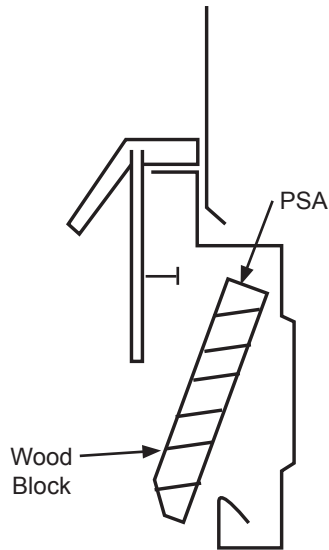
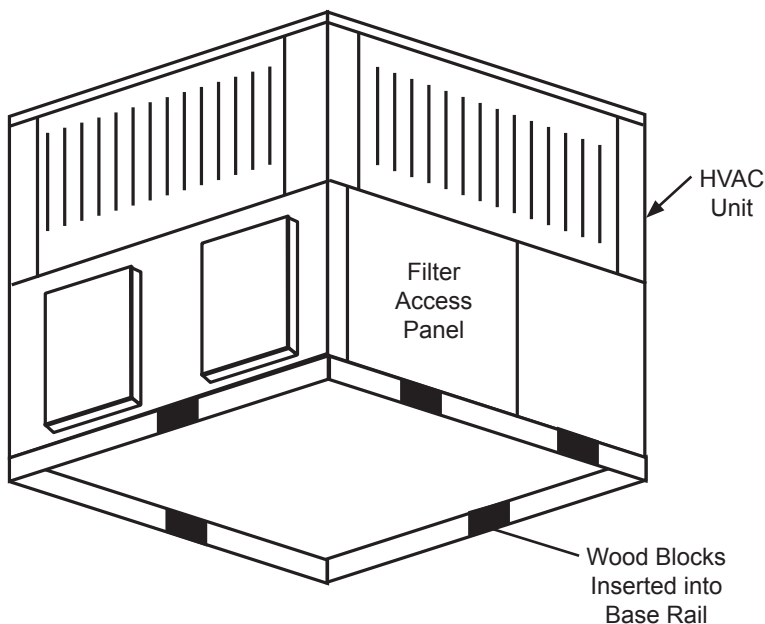

FIG. 11 - Wood Block Installation
FIG. 12 - Wood Block Location
4. Install the pressure sensitive adhesive, provided with CPGSKTKIT001A00, on the top of the wood spacers, see Fig. 11. This will hold the spacer in place during installation.
5. Insert the (5) wood spacers into the inside of the base rails, see Fig. 11 and 14. NOTE: There will be (2) spacers in the base rail on the side of the unit with the filter access door. See Fig.12.